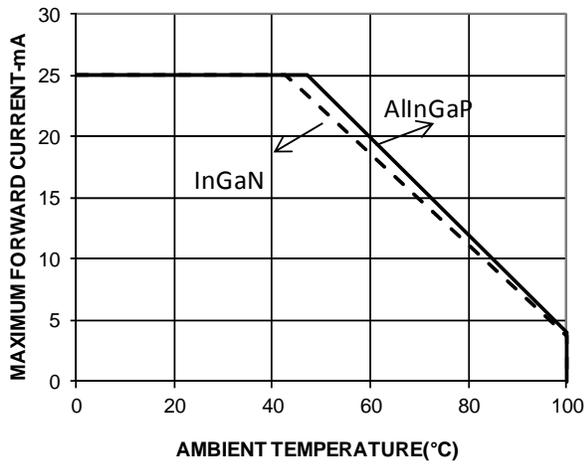

Figure 4a. Maximum forward current vs. ambient temperature. (3 chips)
1. Derate linearly as shown in Figure 4a & 4b